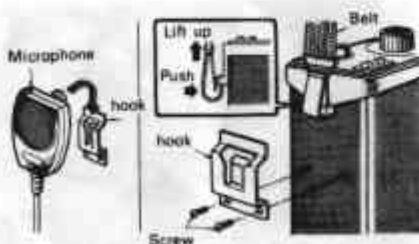

Fig. 10
2. Attach the supplied carrying strap as shown in Fig. 10.
4. Attach the hook as shown in Fig. 10.
Mount the microphone hook on the unit as shown in Fig. 10.
3. Fix the microphone hook to the unit as shown in Fig. 10.